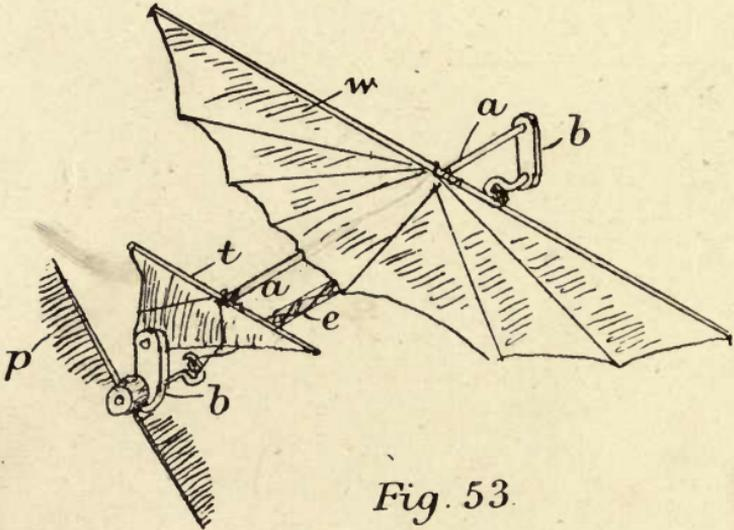

Fig. 53.
M. Pinaud carried out many experiments in motive aëroplanes, one of which, a toy, is a modification of Sir George Cayley's device shown by Fig. 53. An aëroplane w and *tail vane* t are attached to a frame a , between the ends b, b' of which is stretched a twisted rubber band e , which, when wound up in tension, rotates a propeller p , affording a sustained oblique flight.